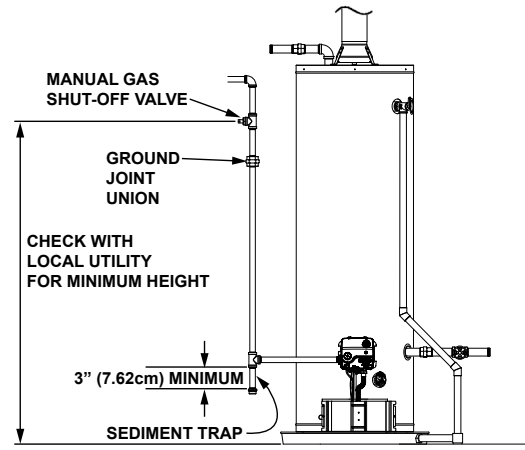

FIGURE 27.
**NOTE:** Use pipe joint compound or Teflon® tape marked as being resistant to the action of petroleum [Propane (L.P.)] gases. Refer to Figure 27 as you review the following items: